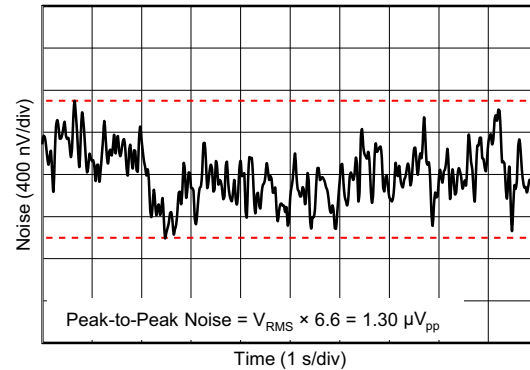

Figure 5-22. 0.1Hz to 10Hz Noise
0.1Hz to 10Hz Noise	Figure 5-22